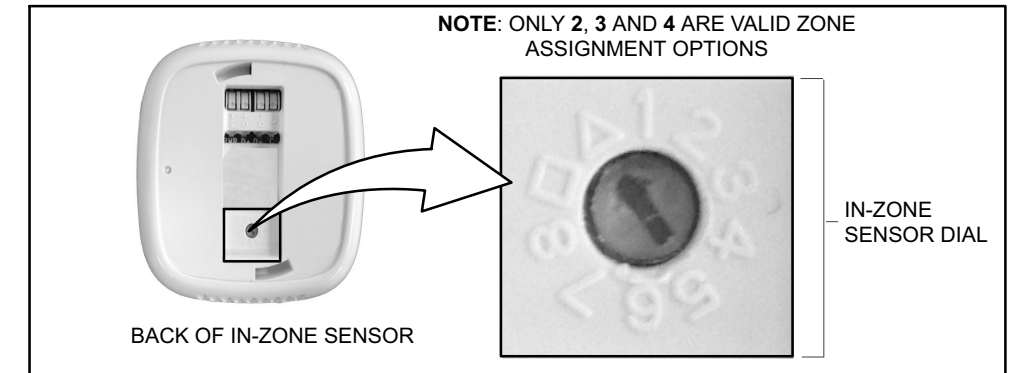

Figure 3. In-Zone Sensor — Zone Setting Dial
2. Using a screwdriver, set zone number assignment by turning the dial on back of In-Zone Sensor to the desired zone number (2, 3 or 4) (see figure 3). Each In-Zone Sensor **MUST** be set to a unused zone number.